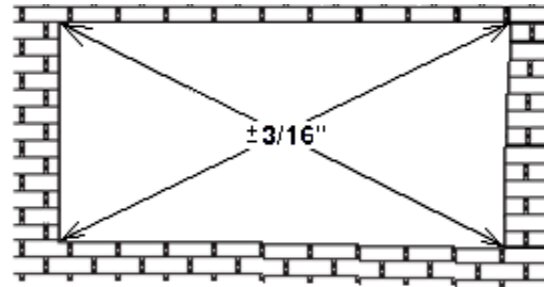
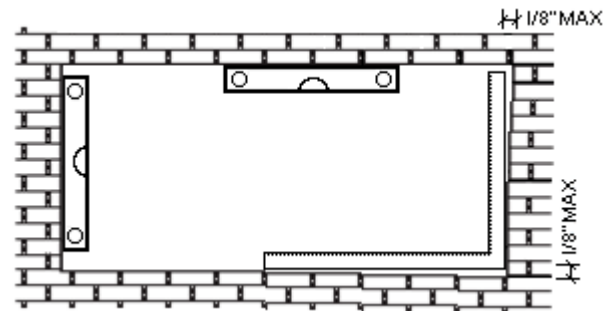

Figure 15
Figure 16
2. Check each opening for square, plumb, and level at all sides and corners. See Figures 15 and Figure 16 for maximum allowable deviations.